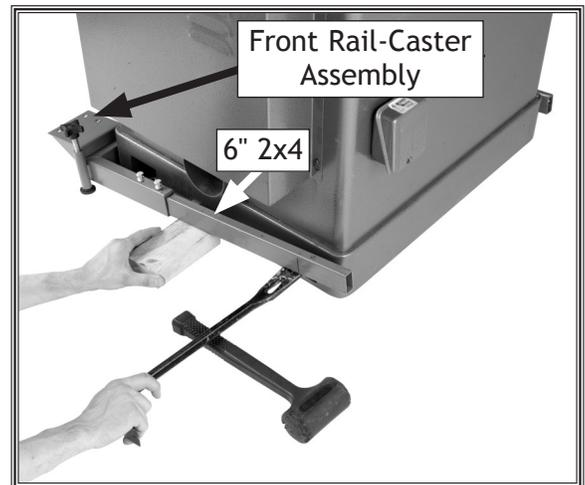

Figure 21. 2x4 placed under rail after using crowbar to raise rail up.
14. Put on safety glasses, use a crowbar and some type of fulcrum to raise one of the side rails that is attached to the front corner bracket assembly, then place a 6" 2x4 under the rail to support it, as shown in **Figure 21**.